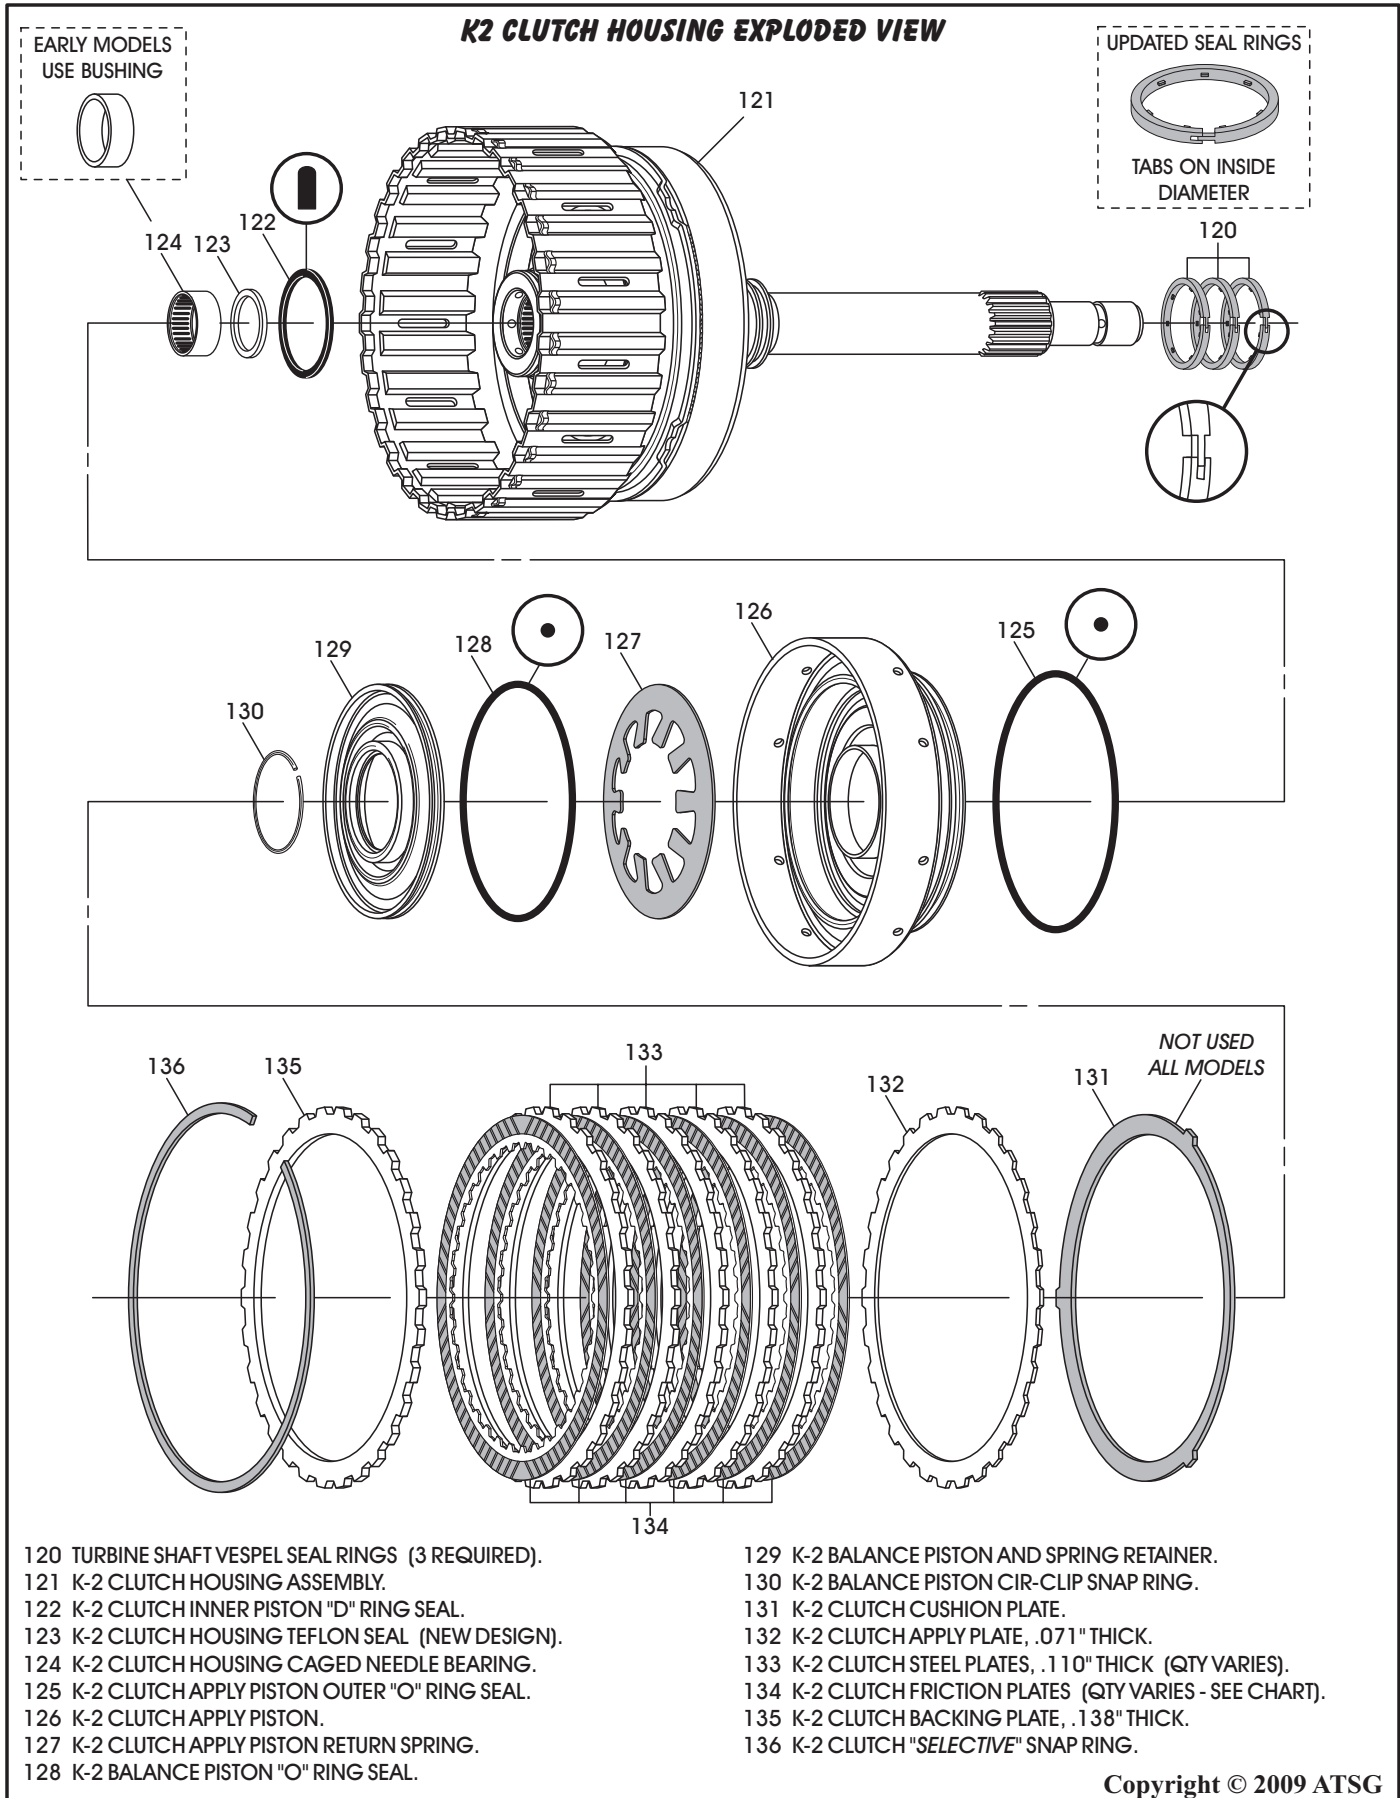

Figure 100
5. Disassemble the K-2 clutch housing using Figure 100 as a guide.